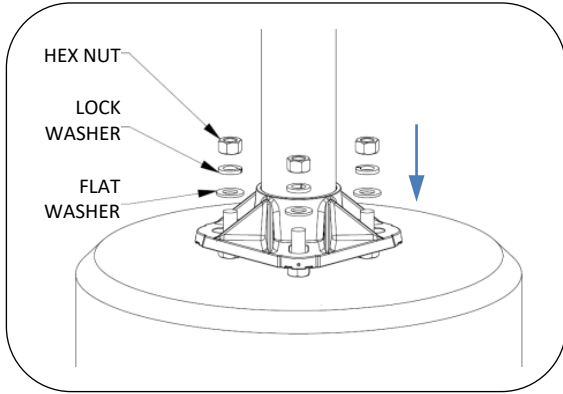

Fig. 4 – Install pole
2. Install washer, lock washer and hex nut as shown in Fig. 4.